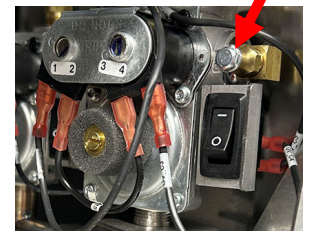

Figure 5
- 11) Remove the outlet pressure test port plug screw (see Figure 5).